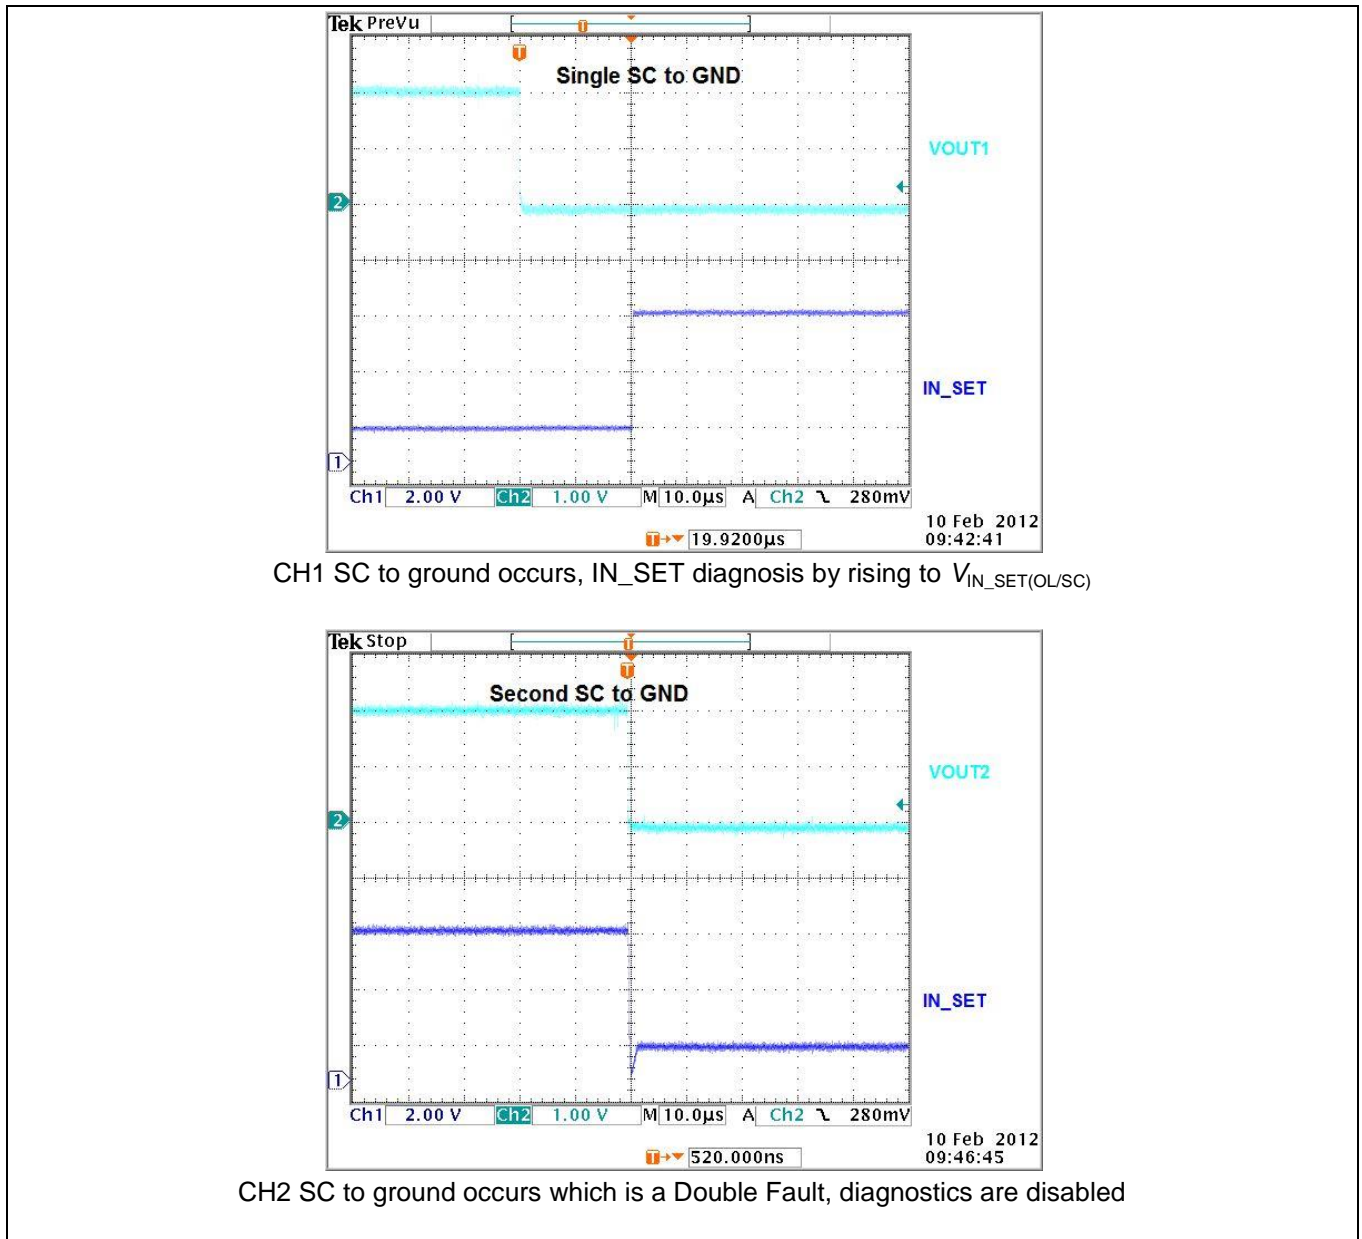

Figure 46 Double Fault Detection – IN_SET diagnostics disabled (Short Circuit to Ground example)
- The scope shots below as Figure 46 shows the case where the LITIX™ Basic will disable the diagnosis functions of the IN_SET pins due to short circuit to ground as a double fault.